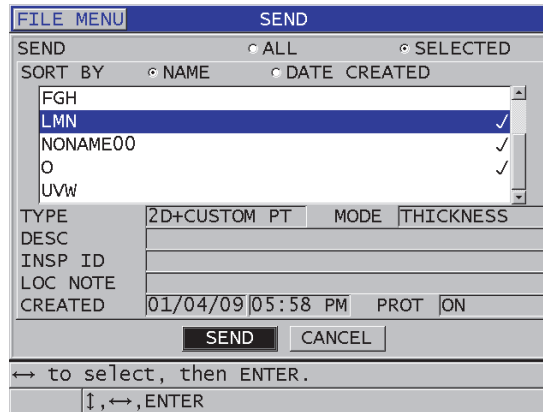

Figure 14-6 Selecting a file to send
4. In the **SEND** screen (see Figure 14-6 on page 270):